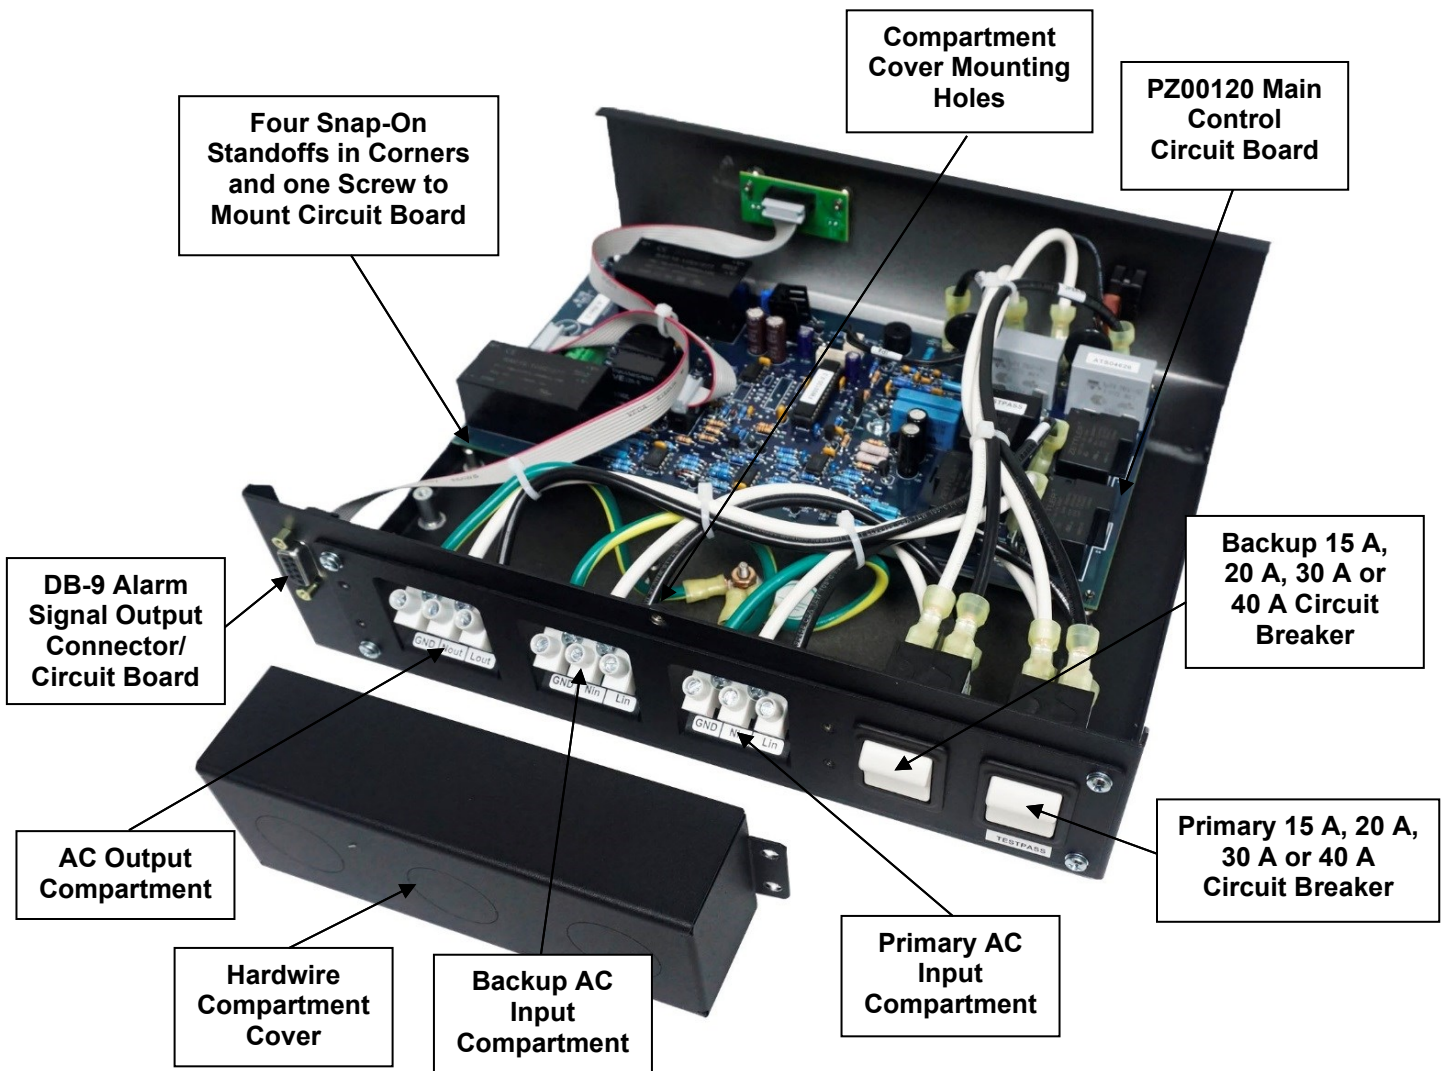

Figure 5: Top-Down Rear view showing Hardwired ATS-500 with top-cover removed
1.71 TOP VIEW WITH COVER REMOVED (See Figure 5)
⚠ DANGER: If the unit has already been installed and prior to the removal of the top cover, make sure that both the PRIMARY and BACKUP INPUT CONNECTORS in the back of the unit have been disconnected and that the up-stream Primary and Backup AC sources are de-energized (switched OFF) - (See Figure 5).
Two main control circuit boards are used in the ATS Series. The PZ00120-5 is used in the 2000, 3000, 4000, 5000, 6000 and 7000 models, while the PZ00127-5 is used in the models 8000 and 9000. The circuit board assemblies are mounted to the chassis by means of four (4) snap-on standoffs and one M3x0.5 Screw, see Figures 5, 7 and 8.